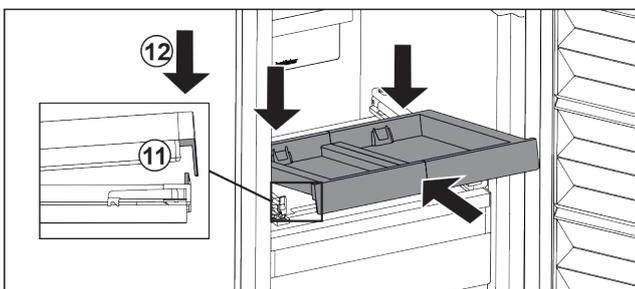

Fig. 88
- ▶ Slide in at an angle. Make sure that the stop is behind the lug on both sides. Fig. 88 (11)
- ▶ Lower the pull-out board at the front. Fig. 88 (12)